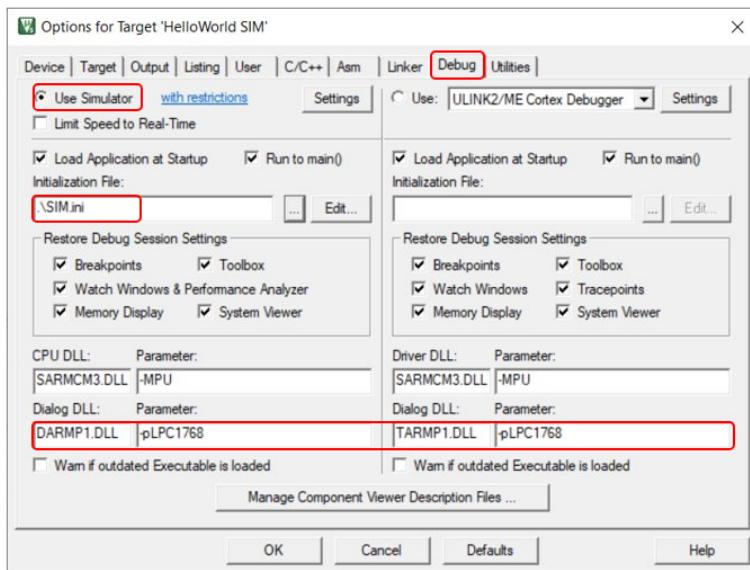

Figure 8.18: Keil IDE: Target Options Debug Tab Configuration
1. Open up the target option window and select “Use Simulator” in the Debug tab and set the Dialog DLL and Parameters as shown Figure 8.18. The debug script `SIM.ini` provided in the starter code (see Listing B.2 in Appendix B) is needed to map the second bank of RAM area read and write accessible inside the simulator.